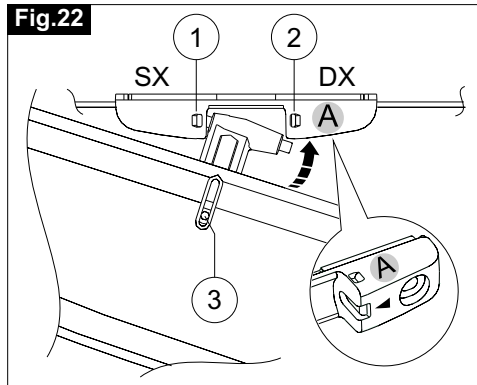

Fig.23
- 11) **Fig.23-** Tighten with the two standard supplied screws (**Ref.1**) the actuator on the bracket connecting it to the window frame;